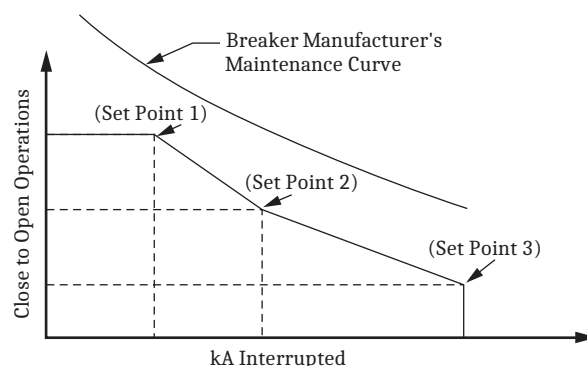

Figure 19 Breaker Contact Wear Curve and Settings
- ▶ Every time the breaker trips, the relay integrates interrupted current. When the result of this integration exceeds the threshold set by the breaker wear curve (Figure 19), the relay can alarm via an output contact or the optional front-panel display. With this information, you can schedule breaker maintenance in a timely, economical fashion.